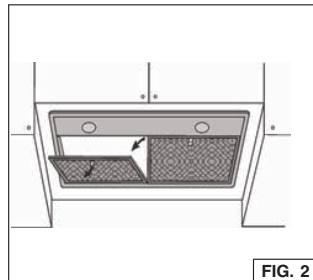

FIG. 2
1. Remove the grease filters, push in on the metal latch tab. Tilt the filters downward and remove (Fig. 2).